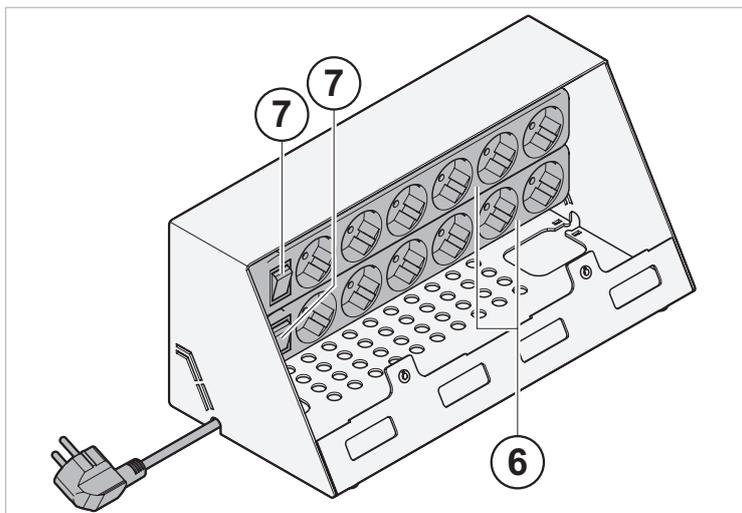

Fig. 2 ChargerBox, opened
- Make sure that both plug strips are switched on. The on/off switch (7, Fig. 2) is always in the "On" position.
The on/off switch (7, Fig. 2) is always in the "On" position.